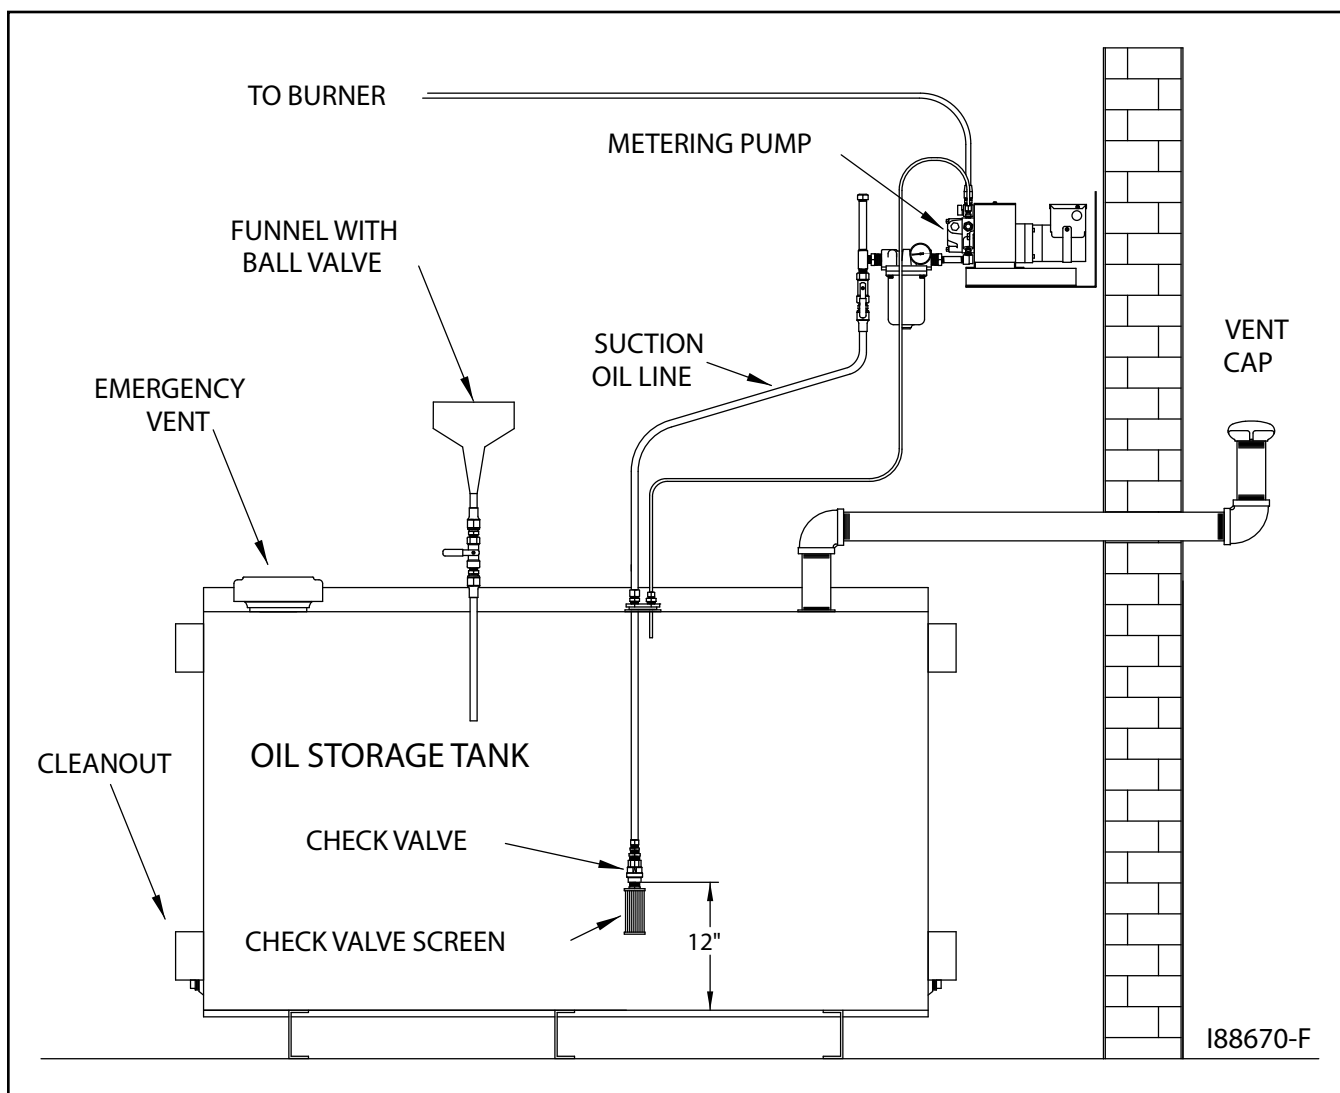

Figure 9C - Check Valve Detail
1. Refer to Figure 9C. Remove the one-piece suction oil line from the tank.